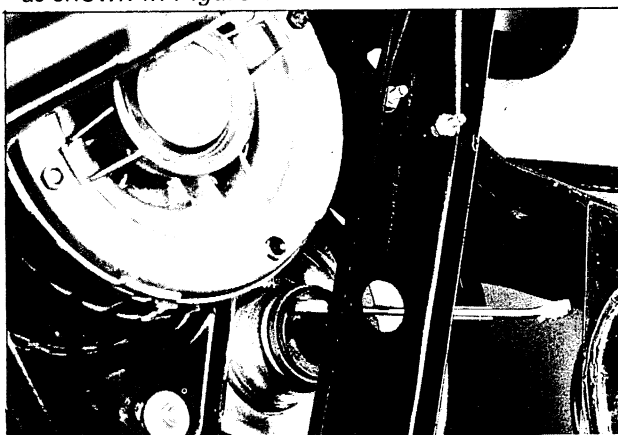

Figure 124
3. Remove bottom seal by prying out with a small screwdriver or a $\frac{1}{2}$ " open end wrench as shown in *Figure 124*.